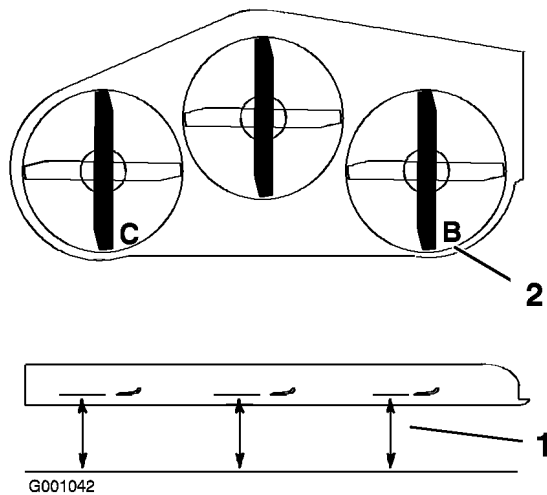

Figure 56
1. Position the right blade front-to-rear (Figure 56).
2. Measure the right blade at the **B** location, from a level surface to the cutting edge of the blade tip (Figure 56).
4. Position the left blade front-to-rear (Figure 56).
5. Measure the left blade at the **C** location (Figure 56), from a level surface to the cutting edge of the blade tip .